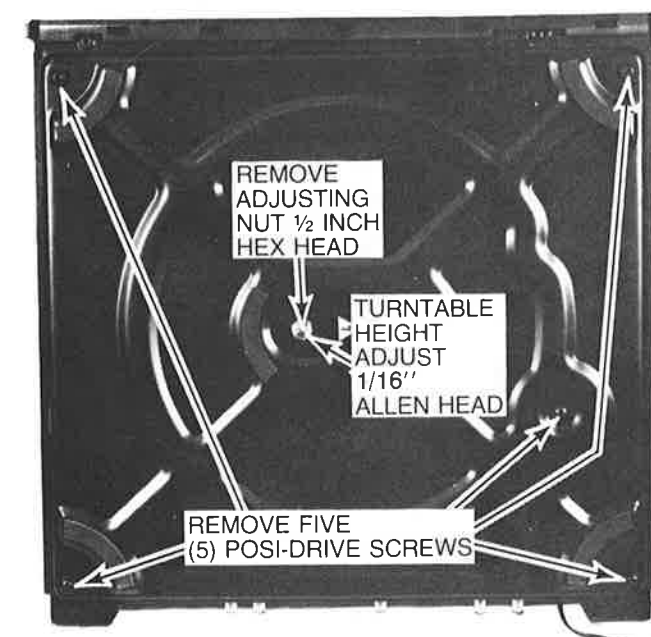

Fig. 10—Bottom Cover
3. Remove five (5) posi-drive (+ head) screws Fig. 10.